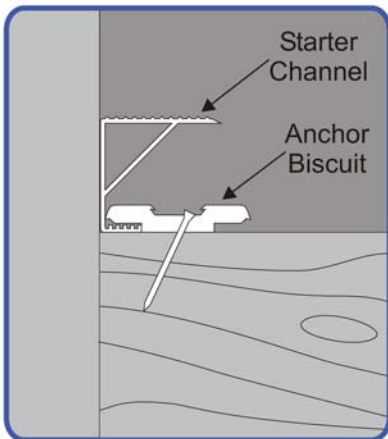

Figure 2
Step 2. Install starter channel. Starter channel should be secured to the deck substructure along any edge of the deck surface that will abut a vertical surface (such as the outside wall of a home). Place the flat side of the starter channel against the vertical surface. Use anchor biscuits to push the starter channel snug against the vertical surface. Use a $1\frac{1}{2}"$ deck screw to secure the anchor biscuit to the deck substructure (see Figure 2).